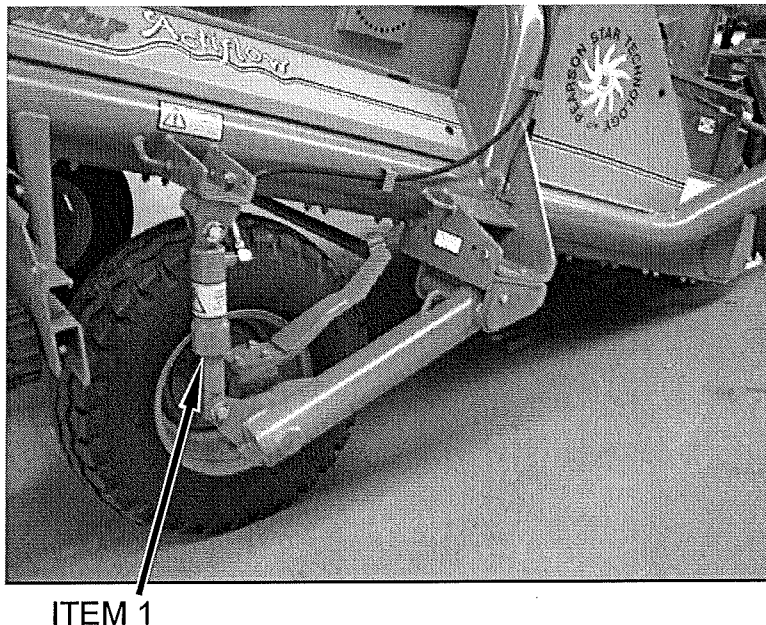

Fig 10.1
A manual hydraulic levelling system may be fitted. This consists of a hydraulic cylinder, fitted to each pivoting axle (Fig 10.1 item 1), controlled by switches in the driver's control box (section 4). When the hydraulic levelling system is fitted it enables the driver to adjust the height and level of the machine.